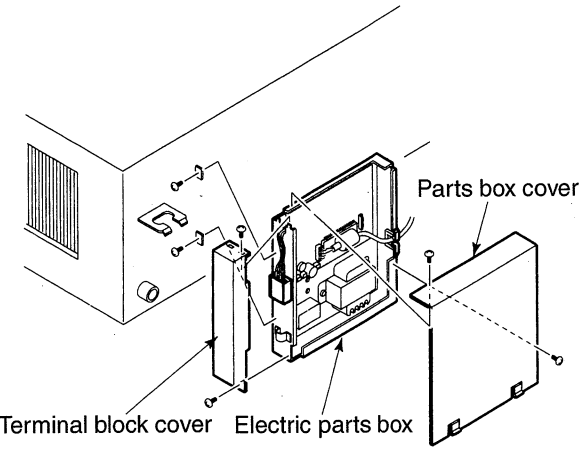

Fig.1
1. Remove the electric parts box from the indoor unit, and then remove covers of the terminal block and electric parts. (Fig.1)